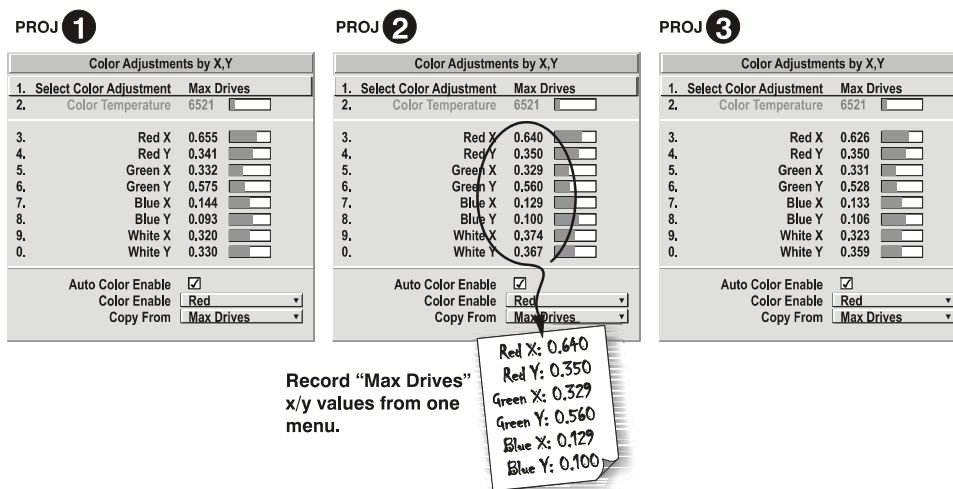

Figure 3.14. Jot Down a Set of “Max Drives” X/Y Values
4. Display the *Color Adjustments by X,Y* menus for all projectors. Each menu shows the x/y coordinates defining the “Max Drives” color gamut for this projector. Note the values shown in one (any) of the displays. See Figure 3.14. Or use the “Copy From” function to copy them into a “User” gamut in one projector.